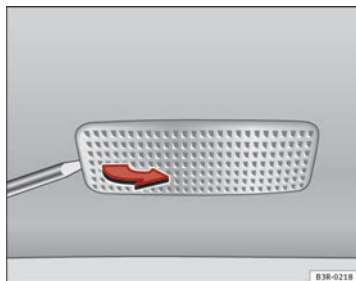

Fig. 242 Removing sun visor light
- Remove the bulb carefully, using the flat part of a screwdriver ⇒ Fig. 242.